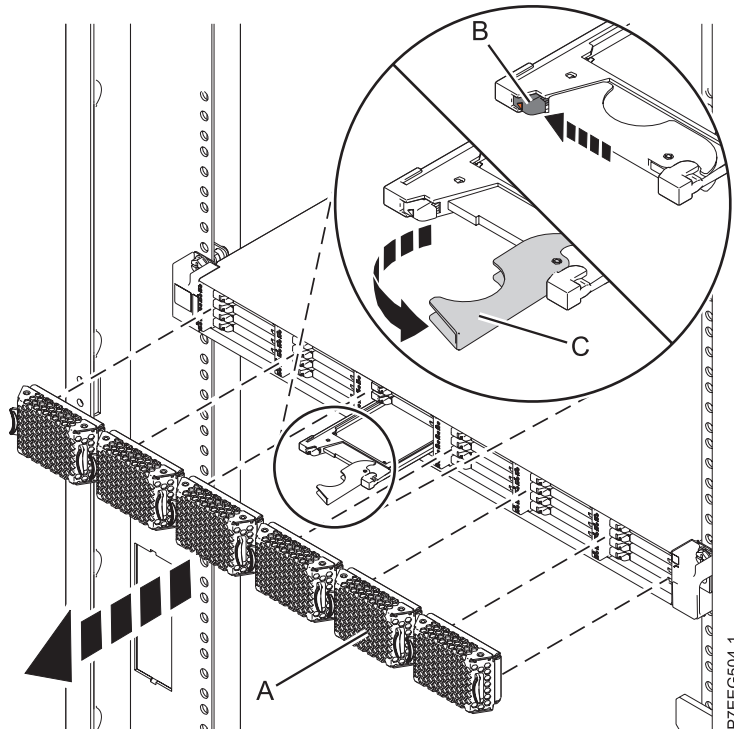

Figure 25. Removing the solid-state drive from the 58/88 PCIe storage enclosure
1. Pull off the bezel (A) that covers the slot that contains the solid-state drive. See Figure 25 on page 41.
2. Slide the release latch (B) over gently to unlock the drive handle.
3. Grasp the handle (C) and pull the drive partially out of the slot.